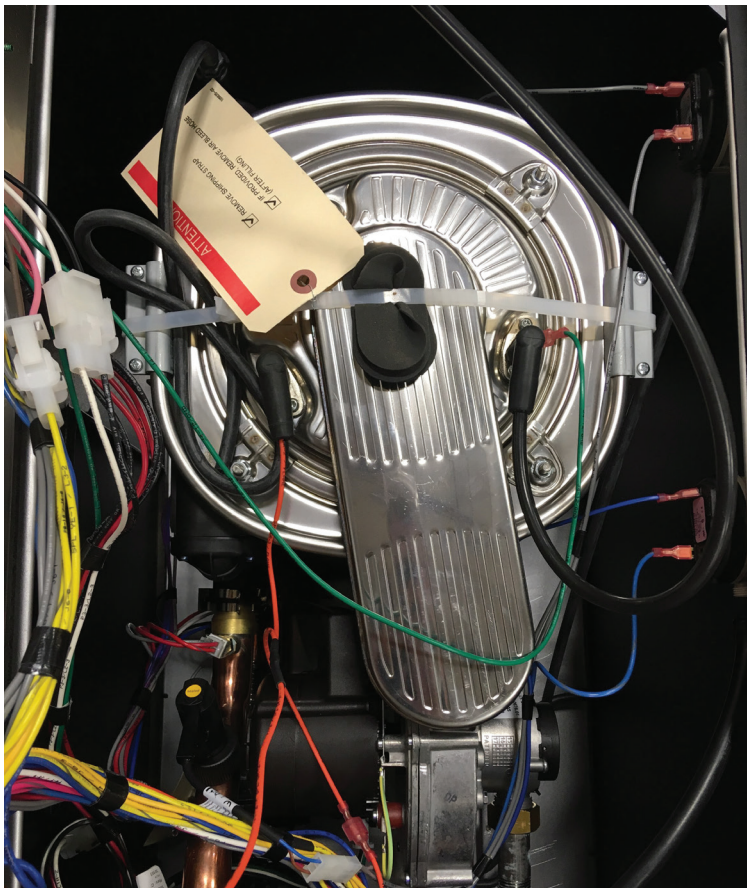

Figure 1
4. Disconnect tube to air proving switch, and disconnect the ends of these wire harnesses (Figure 1):